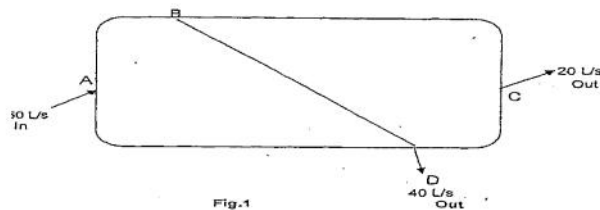

Fig.1
1. A beam ABC, 10m long, fixed at ends A and B is continuous over joint B and is loaded as shown in figure.1. Using the slope deflection method, compute the end moments and plot the bending moment diagram. Also, sketch the deflection shape of the beam. The beam has constant EI for both the spans.